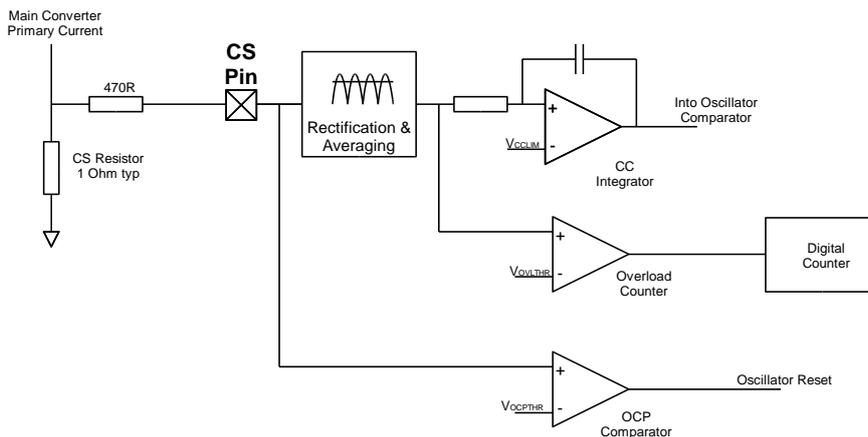

Figure 7: current protection circuits
Figure 7 shows the three current protection methods used in the converter:
Shown in Figure 7, the signal from the CS pin is divided into two different paths. The bottom path provides peak instantaneous over-current protection (OCP) while the constant current limit (CC) and the average current overload (OVL) both use the averaged current signal. The voltage on the CS pin is an AC signal biased around GND. Inside the IC, the signal is first rectified and low-pass filtered. This filtered signal is proportional to the average primary current (and therefore the output current) of the converter.
The CC limiting circuit is shown in Figure 7. The CC operation is defined by an internal control loop, using an integrator with a time constant of approximately 100 $\mu$ s.